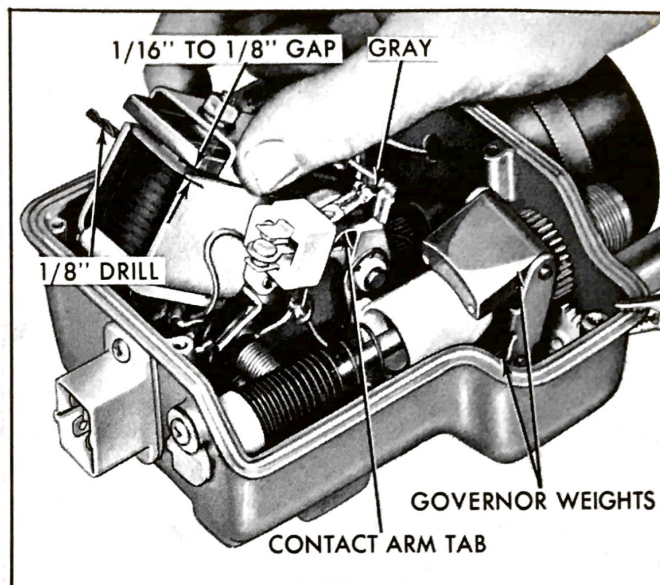

Fig. 15-18 Motor Feed Points Adjustment (Magnet to Locking Arm Gap)
9. Touch positive lead to center contact arm terminal (gray wire). Magnet assembly will move toward close throttle position. Disconnect positive lead when magnet assembly stops moving. There should be $1/16''$ to $1/8''$ between locking arm and outer casting of magnet assembly when locking arm is pulled upward, Fig. 15-18.